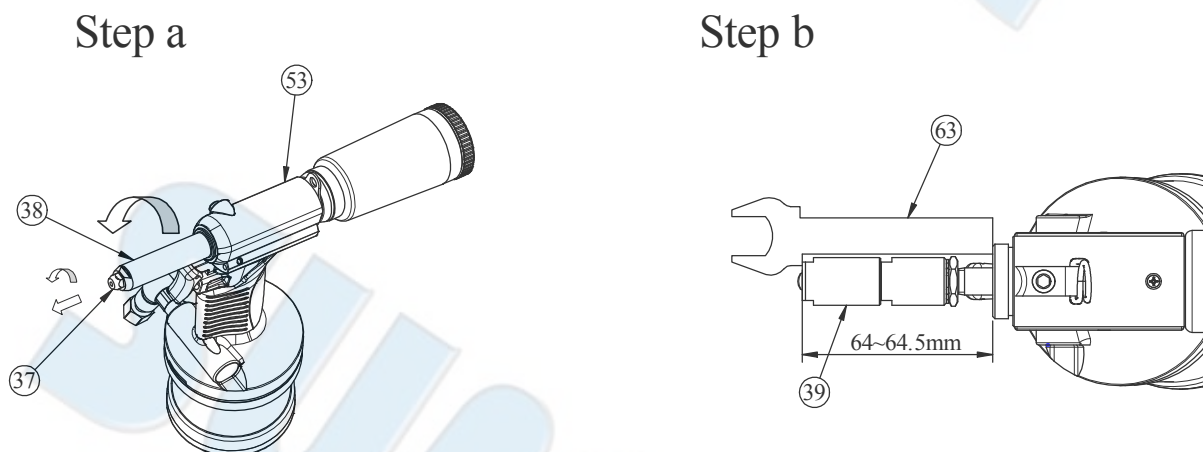

Fig. 2 Detail illustration of changing the nosepiece
FIG 2 DETAIL ILLUSTRATION OF CHANGE THE NOSEPIECE, .....	4
- a. Loosen and remove the nosepiece (Index 37 in Figs. 2 & 5), then set up the desired nosepiece (Index 37~37-3 in Figs. 2 & 5) on frame head as shown in Fig. 2;